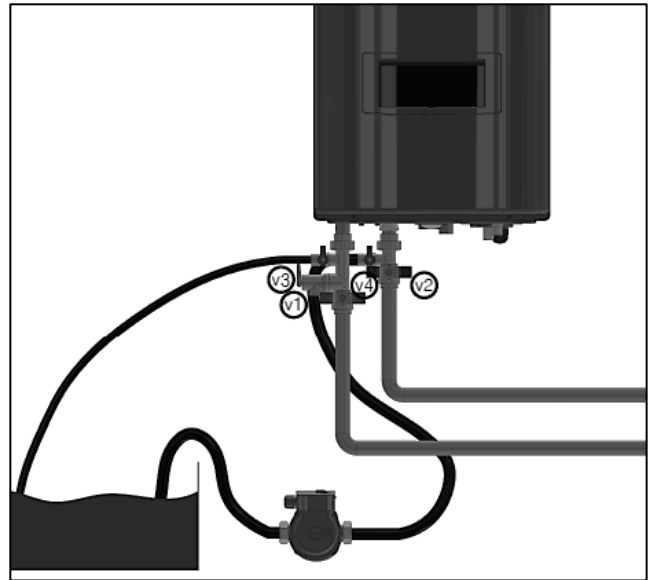

Figure 48 – Valve Detail
2. Close the shutoff valves on both CH supply and CH return lines (V1 and V2). See Figure 48.